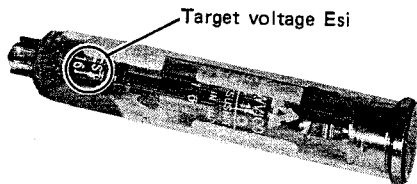

Fig. 3
2. Before inserting the Newvicon, note the value of target voltage E_{sj} stamped on the Newvicon neck (Fig. 3). The value of E_{sj} will be used for the target voltage adjustment.